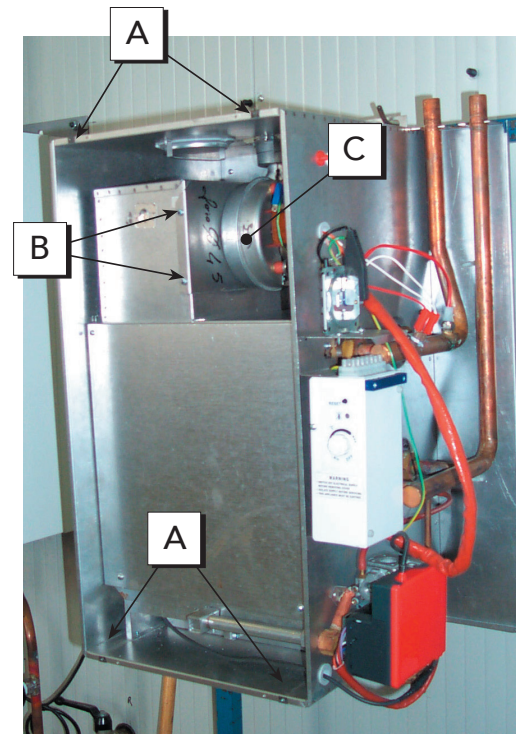

Fig. 46
7.02 Removal of Fan Assembly (rear flueing) fig. 46
7.04 Air Pressure Switch Removal (fig. 46)
7.05 Temperature Sensor (fig.46)